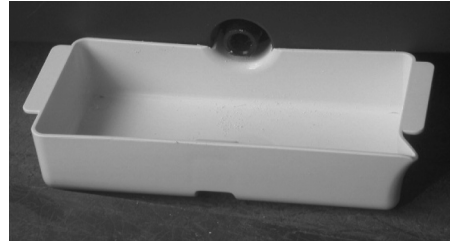

Fig. 5
- Place the collecting pan supplied on the floor under the outlet (12) of the device (see Fig. 5).